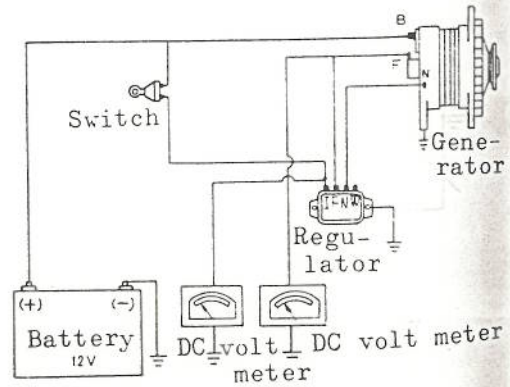

Fig. 10-121
- 1) Connect the volt meters as illustrated in Fig. 10-121, and turn off all the load other than battery. Start the engine and keep charging the battery by operating the alternator